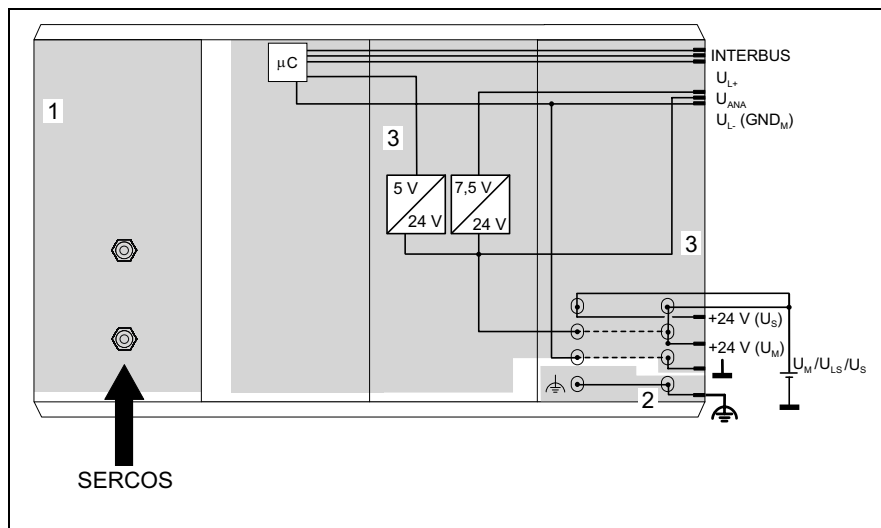

Fig. 4-21: Electrical isolation in the bus coupler (one supply voltage)
2. Section of functional earth ground (FE) of bus coupler and entire station
Note: The feeder connector R-IB SCN-PWR IN-CP links connector 1.2 (U_{LS}) to 2.2 (U_M), connector 1.3 (LGND) to 2.3 (PGND) and connector 1.4 (FE) to 2.4 (FE) (see dashed line in Fig. 4-21).